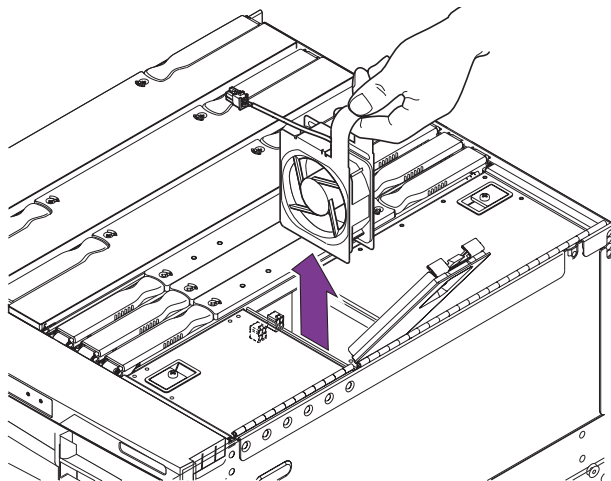

FIGURE 7-11 Removing an IB_SSC Fan
6. From the right side of the system, lift the fan out of the chassis using the metal loop (FIGURE 7-11).